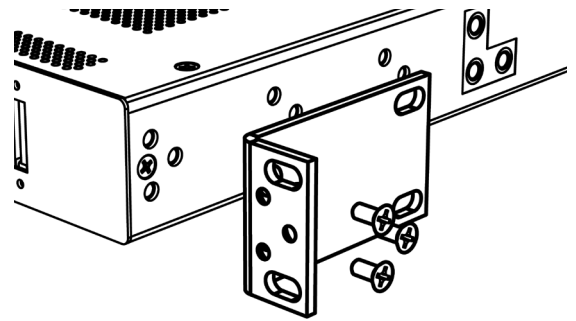

Figure 3. Mounting ears (front-flush position shown)
- Step 2.** Attach the mounting ears with included 10-32 hardware (see Figure 3). Depending on the attachment point selected, the panel will either be front-flush, mid-mount forward, or mid-mount rearward in the rack.